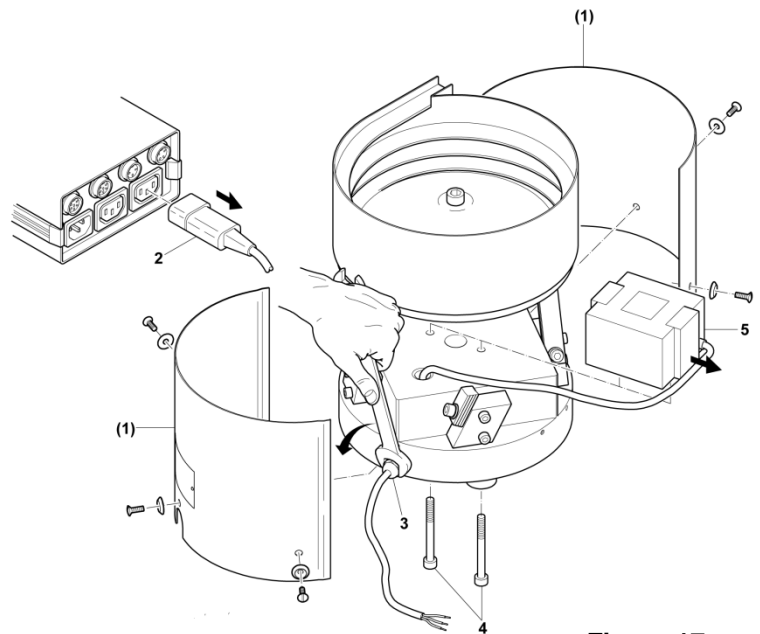

Figure 17
2. Unplug the Euro plug (2) from the control unit and disassemble (see Figure 17).
3. Unscrew the cable clamp (3) and pull the cable through (see Figure 17).